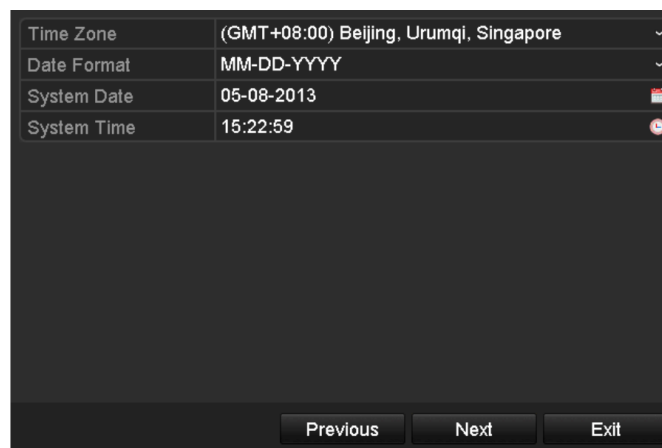

Figure 1-22 Date and Time Settings
Step 2 Click **Next** button to enter the date and time settings window, as shown in Figure 1-22.